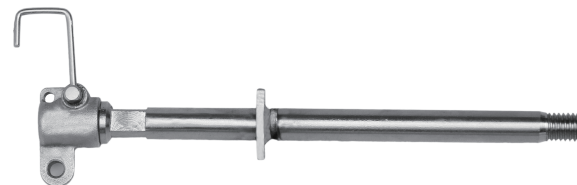
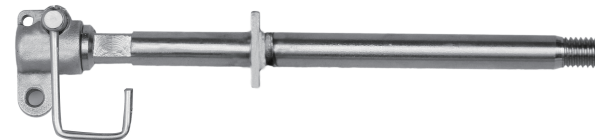

Figure 5 Unlock
Figure 6 Latch
6.2.2 Transmitter and inner cylinder installation: Use the connector pull ring on the inner cylinder (Figure 5), insert the connector into the top of the transmitter lever, and then turn the pull ring to the locked position. Locked on the lever (Figure 6)